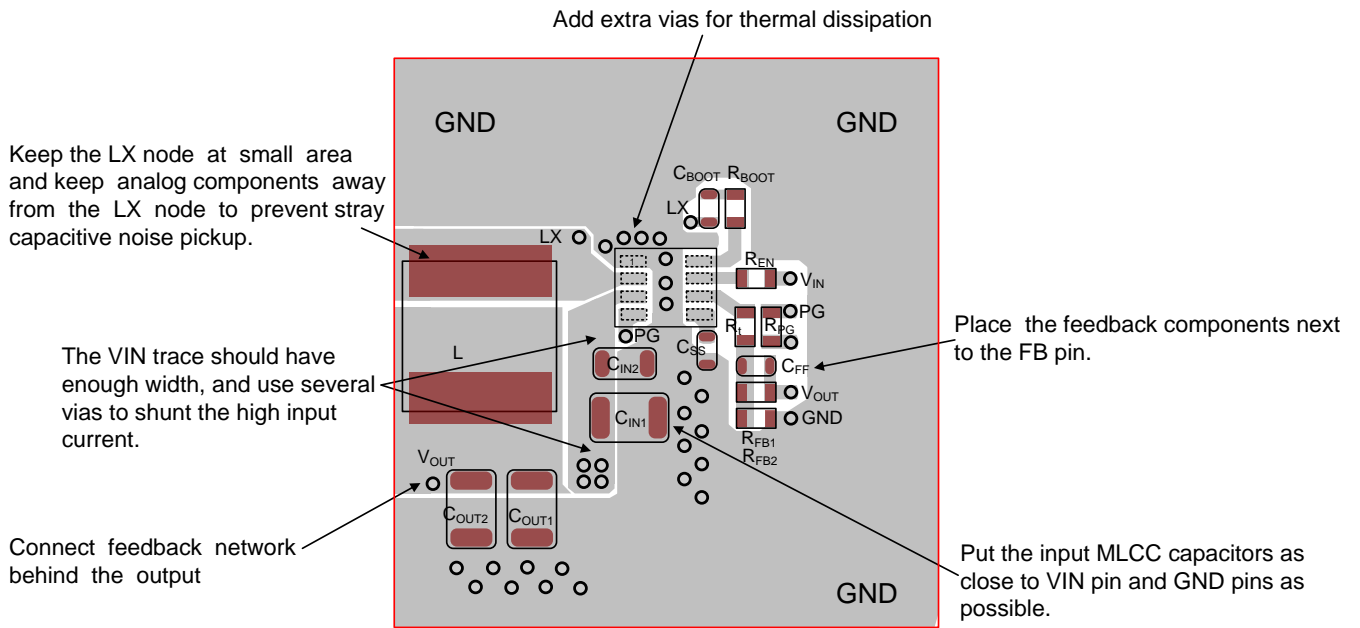

Figure 9. PCB Layout Guide for TSOT-23-8 package
- ▶ An example of PCB layout guide is shown from Figure 9.